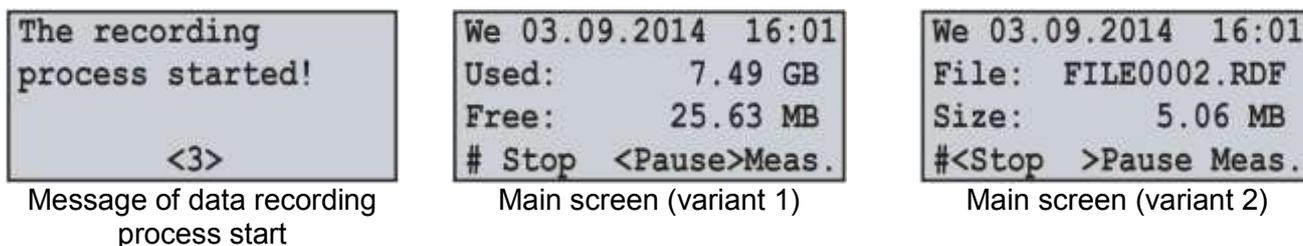

Fig. 6.4 – Main menu view after start of data recording process
To start the process of data recording to the memory card it is necessary to select with the buttons ◀ (left) or ▶ (right) the menu item **“Start”**, then by pressing the button ◻ (enter) to confirm the choice, on the data logger display there will be a message confirming the beginning of the recording process (Fig. 6.4) and LED indicator **RECORDING** will be on (Fig. 3.2 item 7). After 3 seconds the main screen (Fig. 6.4) will be shown on the data logger display.
On the main screen there will be alternatively shown information of the free and occupied space on the memory card (Fig. 6.4 – Main screen (variant 1)), as well as the name and size of the last recorded file (Fig. 6.4 – Main screen (variant 2)).
To escape from the screen of measured values it is necessary to press the button ■ (enter), the display will go to initial view (Fig. 6.4 – Main screen).